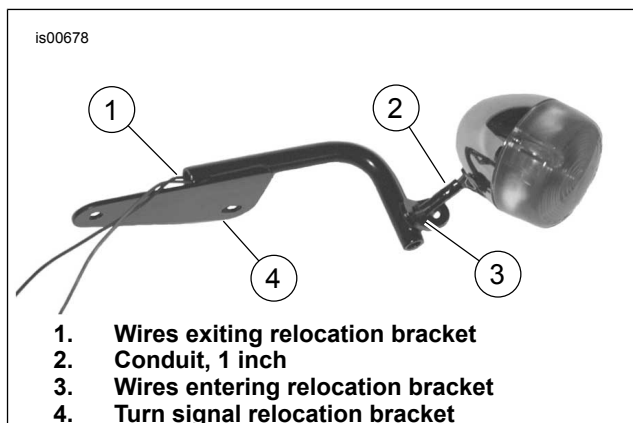
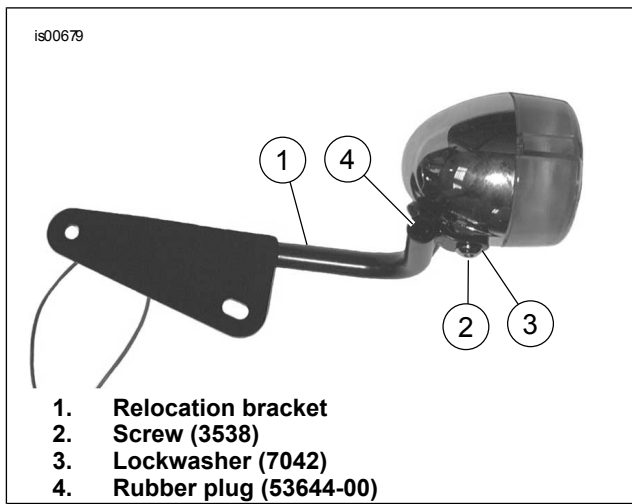

Figure 4. Install Wiring into Relocation Bracket
Figure 5. Install 3 Inch Turn Signals
- a. See Figure 4. Remove conduit from turn signal housing and cut wiring 12 inches (305 mm) from entrance to lamp housing. Cut a 1 inch (25 mm) section off conduit and slide it over wiring.
- d. See Figure 5. Install turn signal to relocation bracket (1) using screw (2) and lockwasher (3). Tighten securely.
- e. Install rubber plug (4) to cover opening of tube on relocation bar.
- f. See Figure 4. Moisten wires with wet shop towel and insert wires through relocation bracket (Figure 16, Item 3 and 4) until wires exit from opposite end of tube.